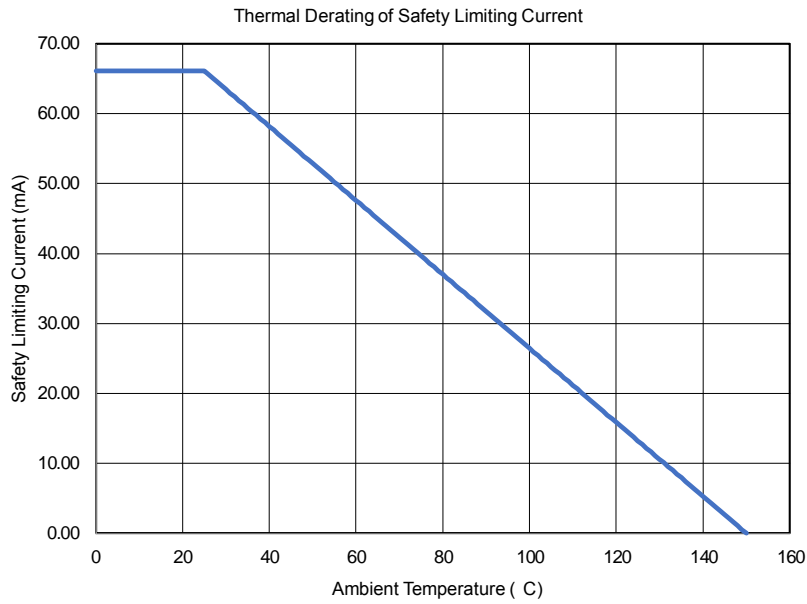

Figure 4.2. NB SOIC-16 Thermal Derating Curve, Dependence of Safety Limiting Values with Case Temperature per VDE 0884-10
- Maximum value allowed in the event of a failure. Refer to the thermal derating curve in [Figure 4.2 NB SOIC-16 Thermal Derating Curve, Dependence of Safety Limiting Values with Case Temperature per VDE 0884-10 on page 23](#).